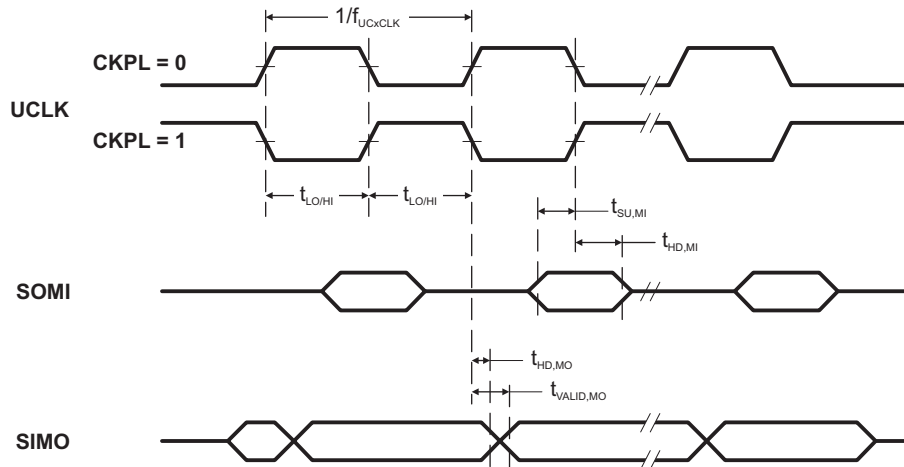
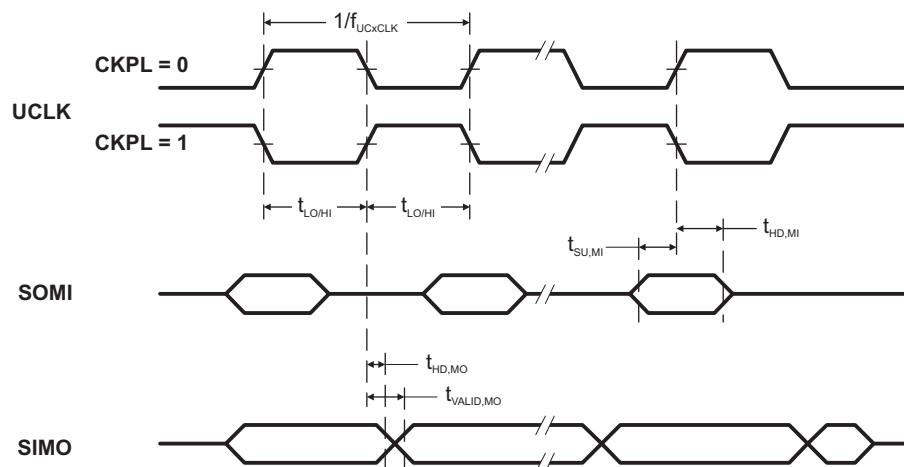

Figure 5-13. SPI Master Mode, CKPH = 0
Figure 5-14. SPI Master Mode, CKPH = 1
(see Note ⁽¹⁾, Figure 5-13 and Figure 5-14)
- (1) f_{UCxCLK} = 1/2t_{LO/HI} with t_{LO/HI} ≥ max(t_{VALID,MO(USCI)} + t_{SU,SI(Slave)}, t_{SU,MI(USCI)} + t_{VALID,SO(Slave)}). For the slave's parameters t_{SU,SI(Slave)} and t_{VALID,SO(Slave)} see the SPI parameters of the attached slave.
- (2) Specifies the time to drive the next valid data to the SIMO output after the output changing UCLK clock edge. See the timing diagrams in Figure 5-13 and Figure 5-14.
- (3) Specifies how long data on the SIMO output is valid after the output changing UCLK clock edge. Negative values indicate that the data on the SIMO output can become invalid before the output changing clock edge observed on UCLK. See the timing diagrams in Figure 5-13 and Figure 5-14.
- (2) Specifies the time to drive the next valid data to the SOMI output after the output changing UCLK clock edge. See the timing diagrams in Figure 5-13 and Figure 5-14.
- (3) Specifies how long data on the SOMI output is valid after the output changing UCLK clock edge. See the timing diagrams in Figure 5-13 and Figure 5-14.